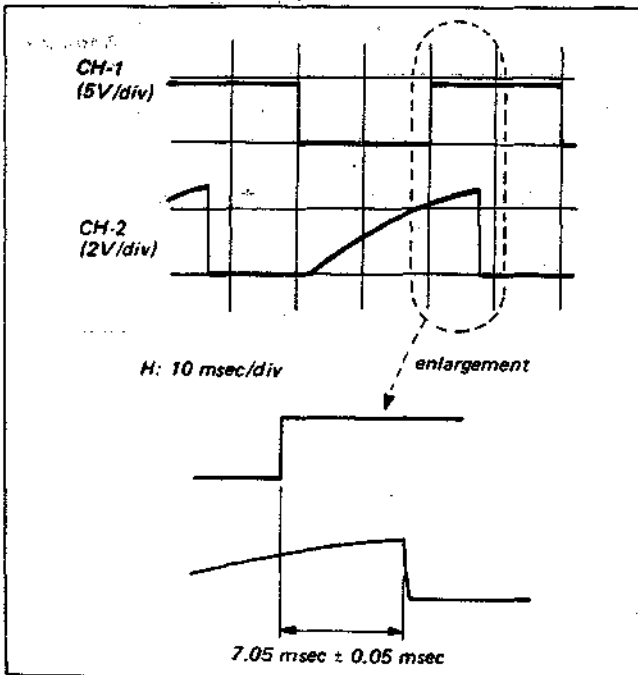

Fig. 5-12. Tracking center adjustment
- ii) Adjust to $7.05 \text{ msec} \pm 0.05 \text{ msec}$ with RV306. (See Fig. 5-12.)